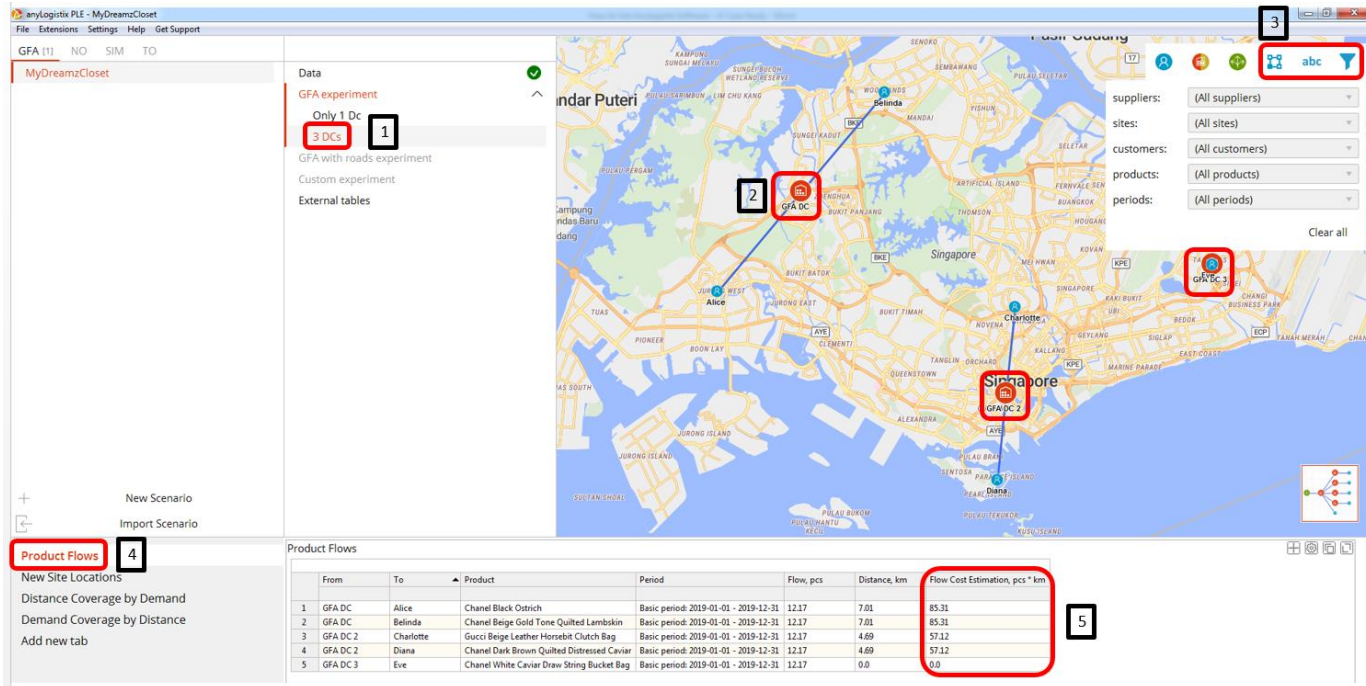

Figure 37: Case 2 with 3 DCs
- ✓ Figure 37 shows Case 2 with three DCs, results of the GFA Experiment.